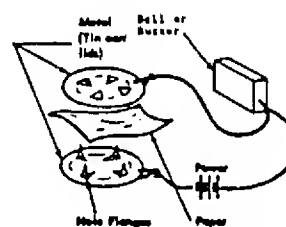

Figure 382 Pressure Device Booby Traps
1. A "Pressure Device" can be made by punching holes in the end pieces of two #10 cans as shown in Figure 382. An electric lead is fastened to each piece. They are placed with the jagged edges facing each other with a piece of paper between, forming the only break in a circuit connecting a buzzer and a power source. Pressure on the top piece of metal will puncture the paper and complete the circuit, causing the buzzer to go off.